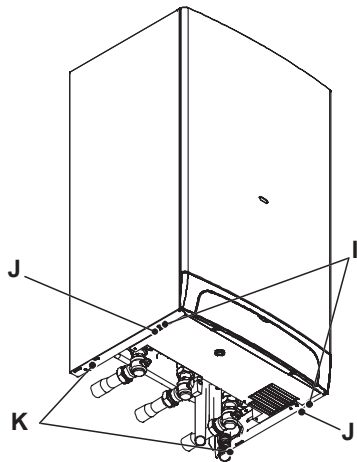

Fig. 6.13
- Remove the screws I and J (Fig. 6.13).